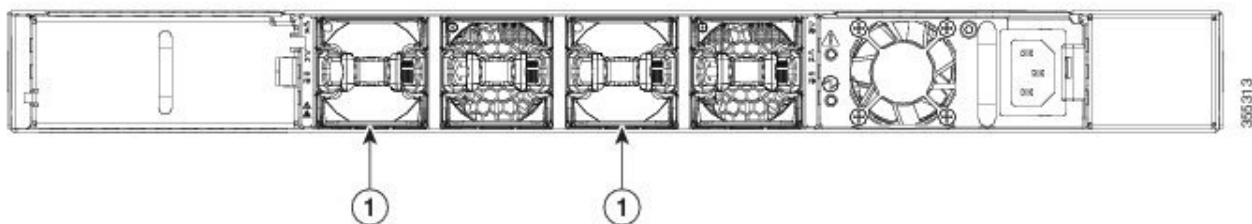

Figure 17. Inserted Fan Blank Modules
3. Insert a fan blank module, as shown in Figure 17 on page 28 if you do not have a new fan module.